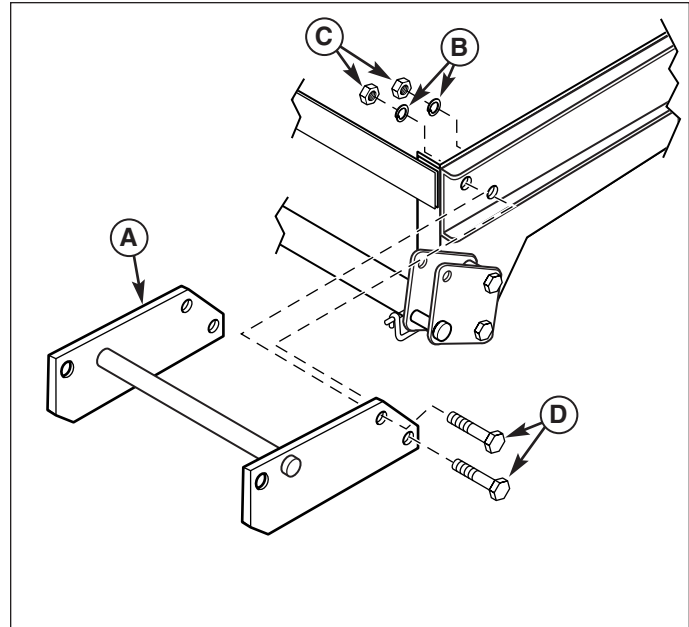

Figure 2. Install Hitch Assembly
2. Install the hitch assembly (A, Figure 2). Secure with 1/2-13 x 1-1/4 cap screws (D), 1/2 washers (B) and 1/2-13 nuts (C)